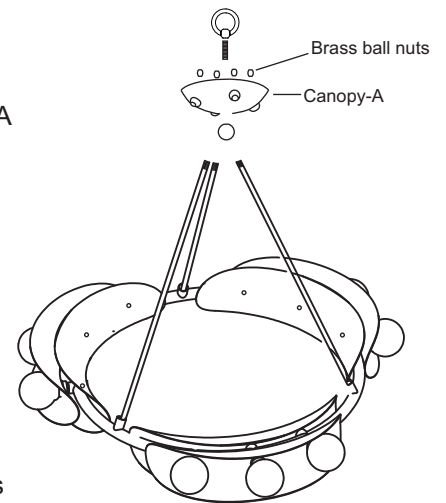

FIGURE-2
- Assemble the fixture by threading the three stems into the fixture and to canopy-A with the help of brass ball nuts provided. See figure-2.
- Open the end links of the chain and attach the chain to the screw collar loop. Insert the lead wire to the stem then thread in the stem into the frame. See Figure-2. Hang the fixture on the chain at the desired height. Remove the excess chain close all links. Unscrew the threaded ring from the screw collar loop. Allow the ring and canopy to slide down the chain to the top of the fixture. See Figure-3.